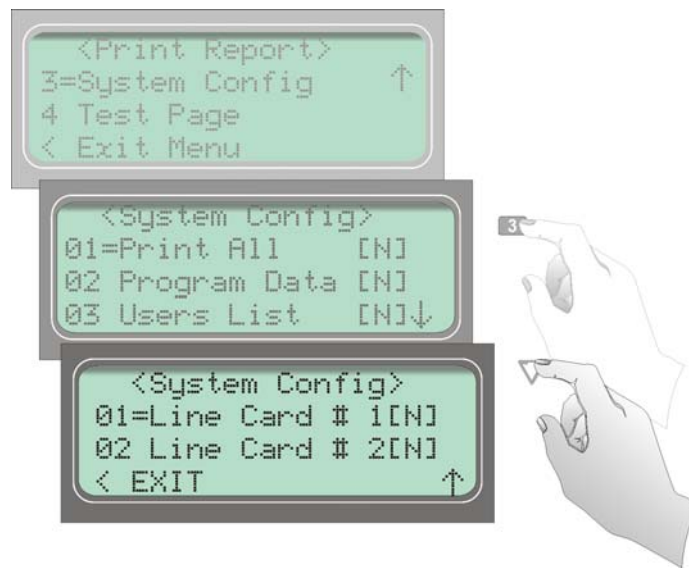

Figure 4-14 System Configuration Print Items
5. Press **3** to view system configuration options. See Figure 4-14.